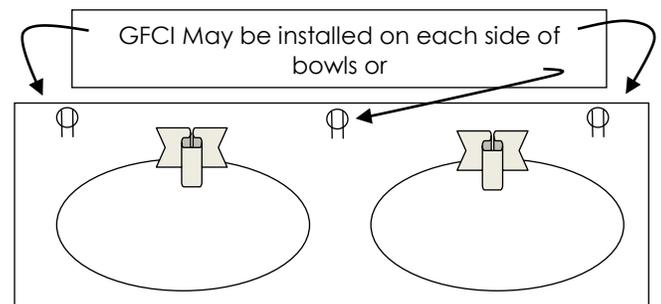

Figure 4
- A 20 Amp within 3 feet of the outside edge of a sink basin. *See fig.4*
- Bathrooms *See Fig. 4*